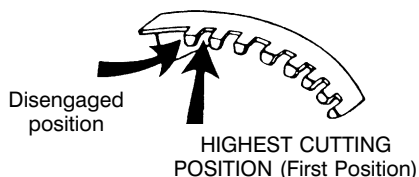
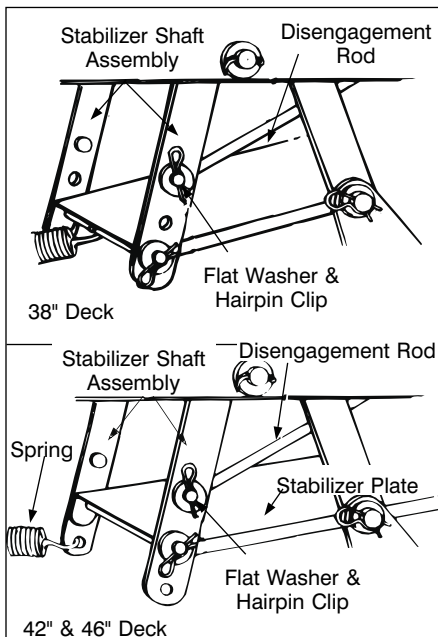

FIGURE 12
FIGURE 13
NOTE: The lift lever **must** be in the disengaged position when starting the engine, when shifting into reverse and if the operator leaves the seat. See figure 12.
3. Place the lift lever in the DISENGAGED position. See figure 12.
With the engine off, place the lift lever in the highest cutting position (first position). See figure 12. Remove the cotter pin and flat washer which secure the disengagement rod to the stabilizer shaft assembly. See figure 13. Shorten the rod by threading it in until the ferrule is against the back of the slot in the lift shaft assembly, and the rod lines up with the hole in the stabilizer shaft. For more belt tension the disengagement rod must be lengthened. To decrease belt tension the disengagement rod must be shortened.